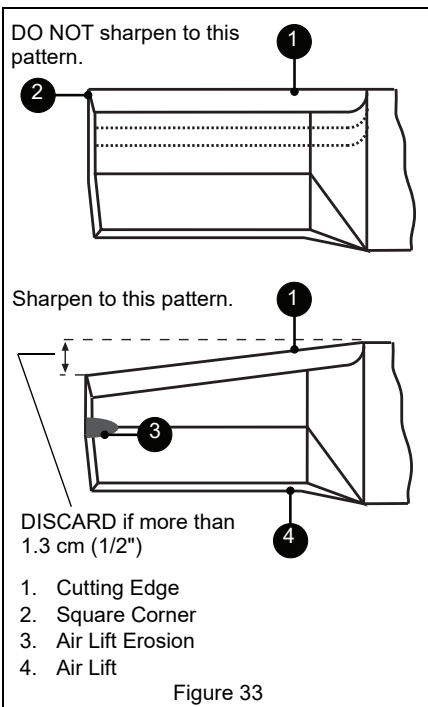

Figure 33
2. File or grind an equal amount of material from each cutting edge of the blade until sharp. DO NOT change angle of cutting edge or round the corner of the blade. See Figure 33.